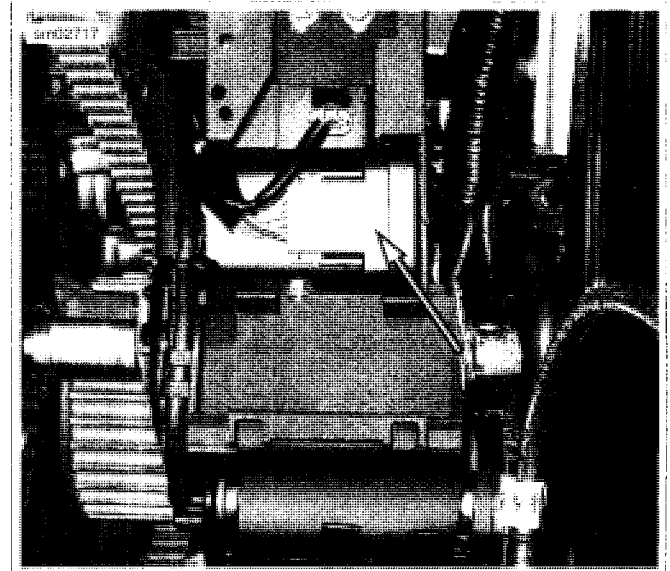

Figure 7-6. Turn Signal/Security Module Location
3. See Figure 7-6. Follow removal instructions under 7.3 ELECTRICAL PANEL.
1. See Figure 7-6. Connect turn signal module connector [30]. Follow installation instructions under 7.3 ELECTRICAL PANEL.